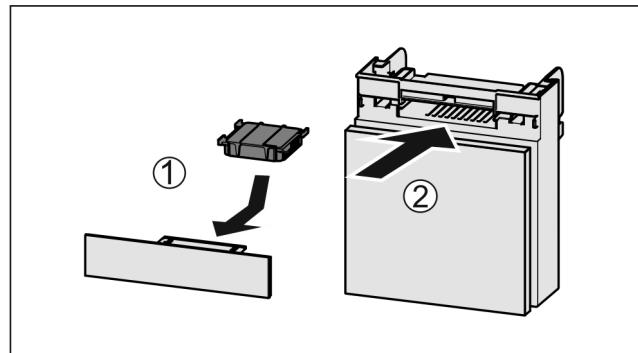

Fig. 132
- Insert the carbon filter as shown in the diagram Fig. 132 (1).
- Push the compartment in Fig. 132 (2).